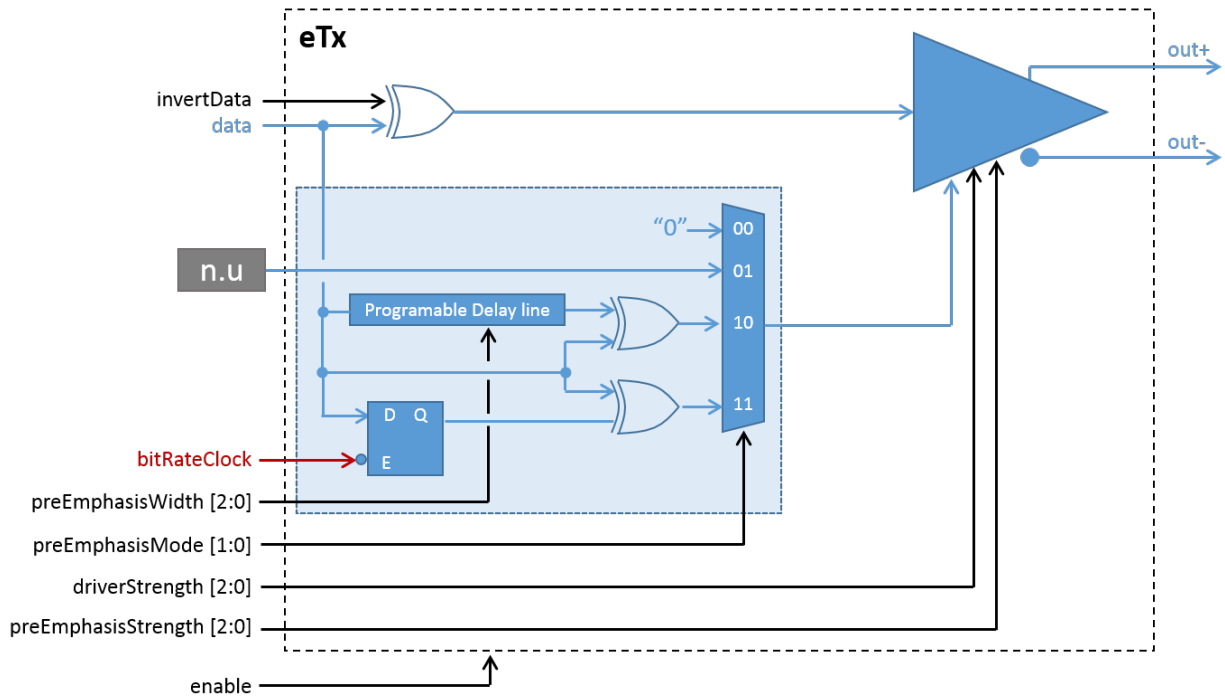

Fig. 7.5: eLink receiver
Fig. 7.5 illustrates the architecture of the IpGBT eLink driver. The same driver is used for the data outputs, up to 320 Mbps, and the clock outputs, up to 1.28 GHz. The driver has been designed to drive 100 Ohm loads with programmable strengths and controlled amounts of pre-emphasis. It has been designed to satisfy the CLPS standard previously described in this chapter. The driver offers many programmable features which include:
- *Enabling a clock driver:* In this case the signal "enable" in Fig. 7.5 becomes: $\text{enable} = (\text{EPCLK[G]Freq}[2:0] \sim 2'b00)$. That is, every time a clock output is set to work at any of the frequencies between 40 MHz and 1.28 GHz the corresponding driver is enabled. The clock frequency is controlled by bits 2:0 of registers `[0x06e] EPCLK0ChnCntrH` (page 171) to `[0x0a6] EPCLK28ChnCntrH` (page 211);
- *Enabling a data driver:* In this case it is possible that even if a given group is active that a specific channel within that group will not be used. Consequently it is necessary to explicitly enable the channels in use. Here, the signal "enable" in Fig. 7.5 becomes: $\text{enable} = \text{EPTX[G][C]Enable}$. These signals are controlled by registers `[0x0aa] EPTX10Enable` (page 213) and `[0x0ab] EPTX32Enable` (page 213); Notice that, if the mirror function is not enabled, for a given data rate only the channels indicated in table *ePortTx (downlink) data rates* (page 56) can be enabled. If the mirror function is enabled for a given group it is possible to enable all the channels in that group. The mirror function is controlled on a group basis by signals `EPTX[G]MirrorEnable` in register `[0x0a9] EPTXControl` (page 213) (Bits 3:0).
- *Clock driver strength:* For clock drivers the driving strength is set by the signal "driverStrength[2:0]" in Fig. 7.5 with $\text{driverStrength}[2:0] = \text{EPCLK[C]DriveStrength}[2:0]$. These signals are controlled by bits 5:3 of registers `[0x06e] EPCLK0ChnCntrH` (page 171) to `[0x0a6] EPCLK28ChnCntrH` (page 211);
- *Data driver strength*: For data drivers the driving strength is set by the signal "driverStrength[2:0]" in Fig. 7.5 with driverStrength[2:0] = EPTX[G][0]DriveStrength[2:0]. These signals are controlled by bits 2:0 of registers [0x0ae] EPTX00ChnCtr (page 215) to [0x0bd] EPTX33ChnCtr (page 226). For the EC channel driverStrength[2:0] = EPTXEcDriveStrength[2:0], these signals are controlled by bits 2:0 of registers [0x0ac] EPTXEcChnCtr (page 214);
- *Clock driver pre-emphasis strength*: For clock drivers the driving strength is set by the signal "preEmphasisStrength[2:0]" in Fig. 7.5 with preEmphasisStrength[2:0] = EPCLK[C]PreEmphasisStrength[2:0]. These signals are controlled by bits 7:5 of registers [0x06f] EPCLK0ChnCtrL (page 172) to [0x0a7] EPCLK28ChnCtrL (page 211).
- *Clock driver pre-emphasis timing*: The pre-emphasis pulse width is controlled by two parameters (Fig. 7.5) the timing **Mode** and the **Pulse Length**. The "Mode" allows to select between no pre-emphasis, pre-emphasis with "clock timed" pulse duration (1/4 of the clock period) or "self timed" where the pulse width can be programmed from 120 ps up to 960 ps. Notice that the "clock timed" mode is not valid if the clock output is set to 1.28 GHz and that in the "self timed" mode the pulse width should never be programmed to exceed 1/2 clock period. The pre-emphasis mode is selected by the signals preEmphasisMode[1:0] = EPCLK[C]PreEmphasisMode[2:0] that are controlled by bits 4:3 of registers [0x06f] EPCLK0ChnCtrL (page 172) to [0x0a7] EPCLK28ChnCtrL (page 211). When in the "self timed" mode, the signals preEmphasisWidth[2:0] = EPCLK[C]PreEmpahasisWidth[2:0] set the pulse width and are controlled by bits 2:0 of registers [0x06f] EPCLK0ChnCtrL (page 172) to [0x0a7] EPCLK28ChnCtrL (page 211).
- *Data driver pre-emphasis strength*: For data drivers the driving strength is set by the signal "preEmphasisStrength[2:0]" in Fig. 7.5 with preEmphasisStrength[2:0] = EPTX[G][C]PreEmphasisStrength[2:0]. These signals are controlled by bits 7:5 of registers [0x0ae] EPTX00ChnCtr (page 215) to [0x0bd] EPTX33ChnCtr (page 226). For the EC channel preEmphasisStrength[2:0] = EPTXEcDriveStrength[2:0], these signals are controlled by bits 7:5 of registers [0x0ac] EPTXEcChnCtr (page 214);
- *Data driver pre-emphasis timing*: The pre-emphasis pulse width is controlled by two parameters (Fig. 7.5) the timing **Mode** and the **Pulse Length**. The "Mode" allows to select between no pre-emphasis, pre-emphasis with "clock timed" pulse duration (1/2 of the clock period) or "self timed" where the pulse width can be programmed from 120 ps up to 960 ps. Notice in the "self timed" mode the pulse width should never be programmed to exceed the bit period. The pre-emphasis mode is selected by the signals preEmphasisMode[1:0] = EPTX[G][C]PreEmphasisMode[1:0] that are controlled by bits 4:3 of registers [0x0ae] EPTX00ChnCtr (page 215) to [0x0bd] EPTX33ChnCtr (page 226). When in the "self timed" mode, the signals preEmphasisWidth[2:0] = EPTX[G][C]PreEmpahasisWidth[2:0] set the pulse width and are controlled by bits 6:4 and 2:0 of registers [0x0be] EPTX01_00ChnCtr (page 227) to [0x0c5] EPTX33_32ChnCtr (page 231). For the EC channel the pre-emphasis mode is selected by the signals preEmphasisMode[1:0] = EPTXEcPreEmphasisMode[1:0] that are controlled by bits 4:3 of register [0x0ac] EPTXEcChnCtr (page 214). When in the "self timed" mode, the signals preEmphasisWidth[2:0] = EPTXEcPreEmphasisWidth[2:1] set the pulse width and are controlled by bits 6:4 of register [0x0a9] EPTXControl (page 213).